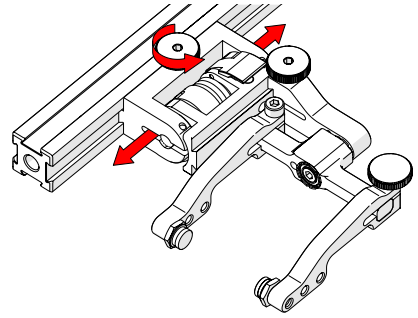

Fig. 55 - Adjust on frame bar
2. Use the probe holder adjustment knob to position the probe holder along the frame bar (Fig. 55).